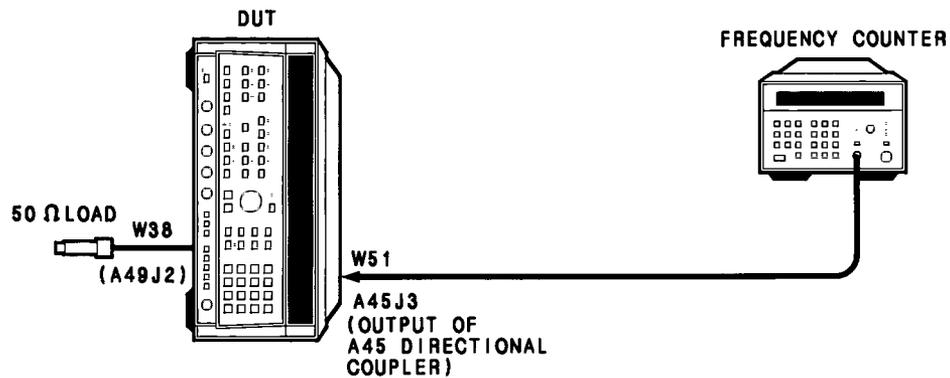

Figure 5-15. YO Main Driver A55 Test Setup
1. Position the DUT in the test position as shown in Figure 5-15 with top and bottom covers removed. Remove W3 (Figure 5-17) and connect the frequency counter to W51 as shown in Figure 5-15. Allow one-half hour for warm up time.